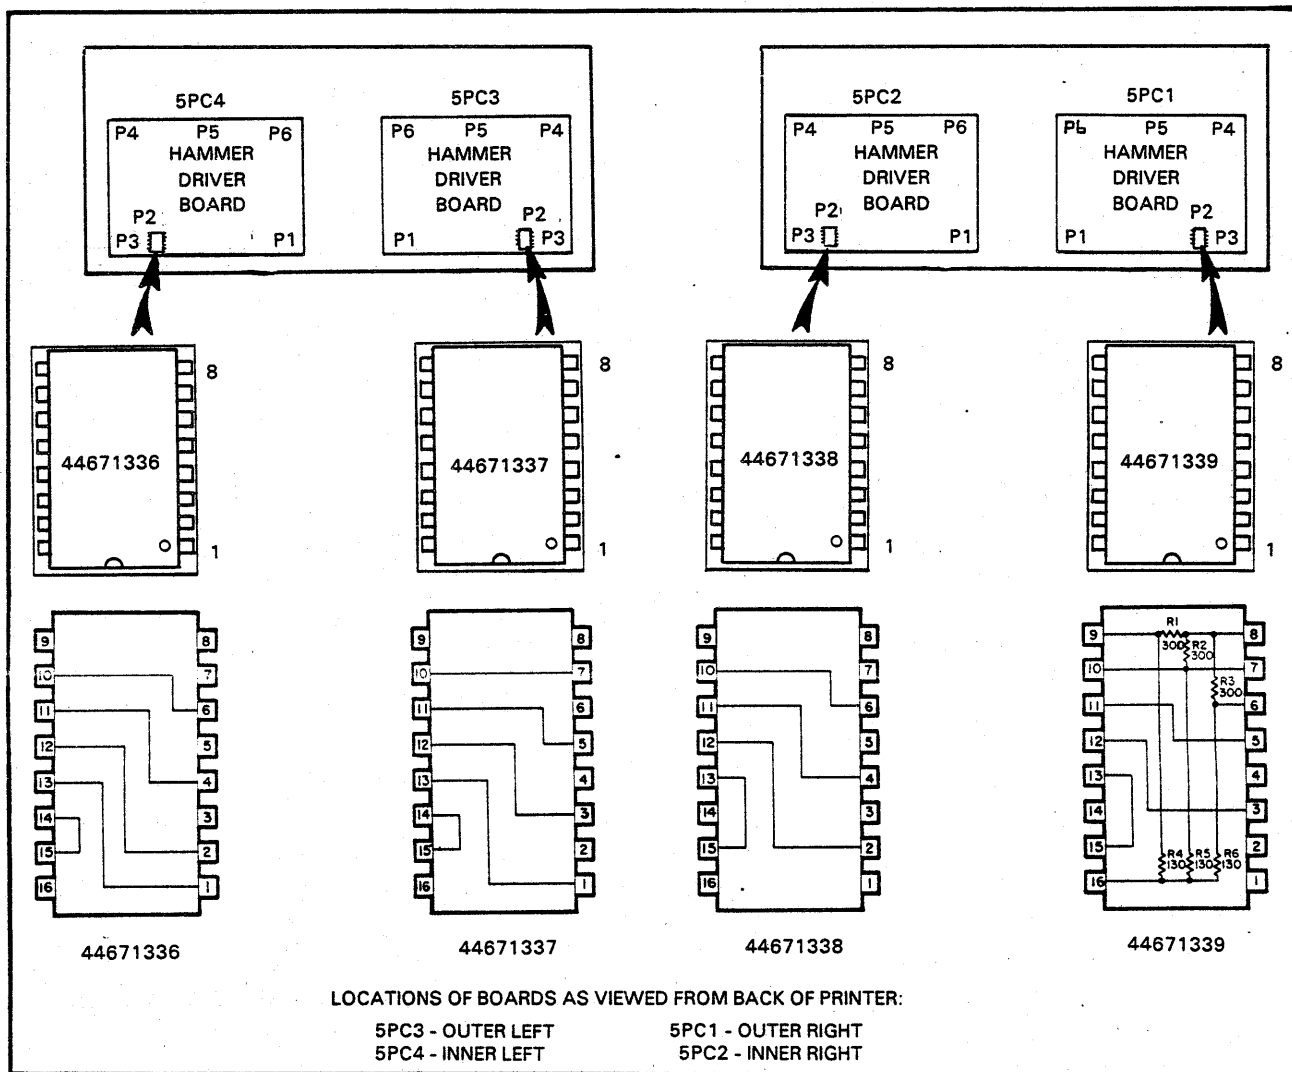

FIGURE 6-14. HAMMER DRIVER BOARD TERMINATOR POSITION
Procedure (See Figure 6-14 and 6-15)
9. Plug the terminator into the jumper socket on a new board. Figure 6-14 identifies the terminators for the four hammer driver boards.